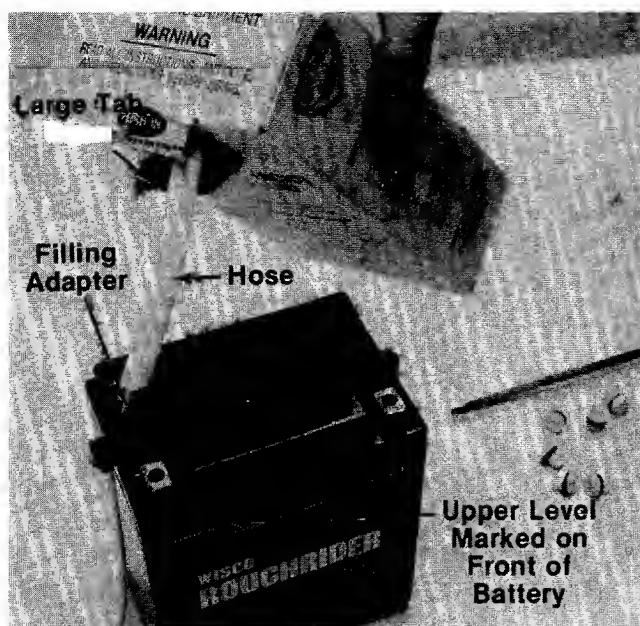

FIGURE 7.
6. Pull out hose from package and hold upright. Squeeze hose forcing all acid back into package. Cut off tip of hose and insert filling adapter. See figure 7.
7. Fill each cell to upper level marked on front of battery. Replace fill caps on battery. See figure 7.